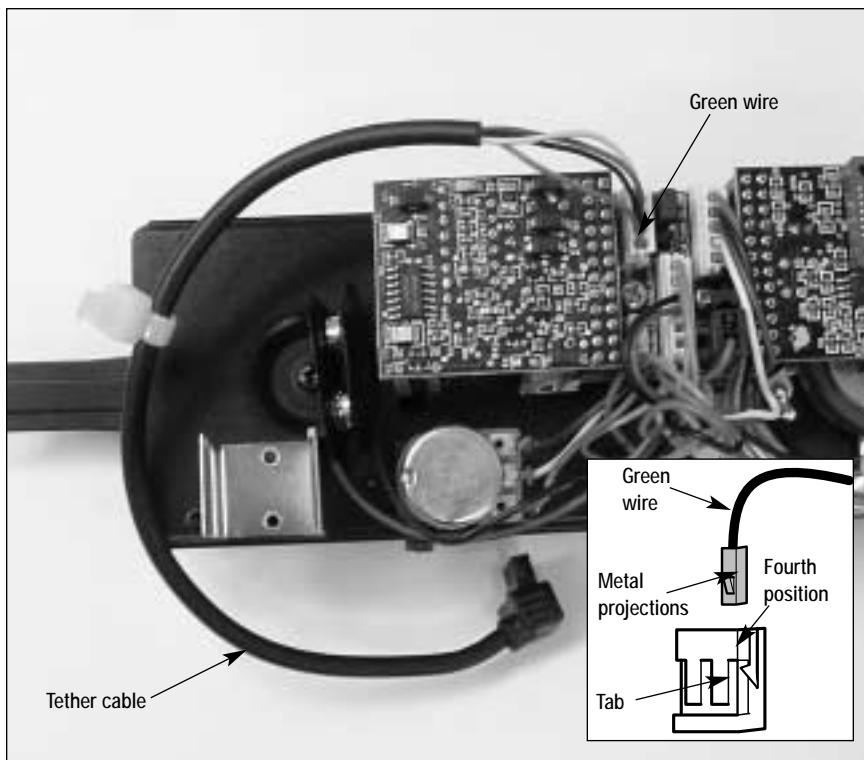

Figure 4. Four-pin connector
- **Steam locomotives only.** Follow the black tether cable (which plugs into the locomotive) back to the end of the black insulation. See Figure 4 on page 6. If all four wires (yellow, red, black, and green) are plugged into a white connector, the upgrade is complete, and no further action is required. If the green wire is “loose” at the end of the black insulation, refer to the section entitled “Connecting the green tether wire” on page 6.
If the green wire at the end of the tender's tether cable is “loose” at the end of the black insulation (as described in the previous section), follow these steps to attach the wire and complete the upgrade. Refer to Figure 4.